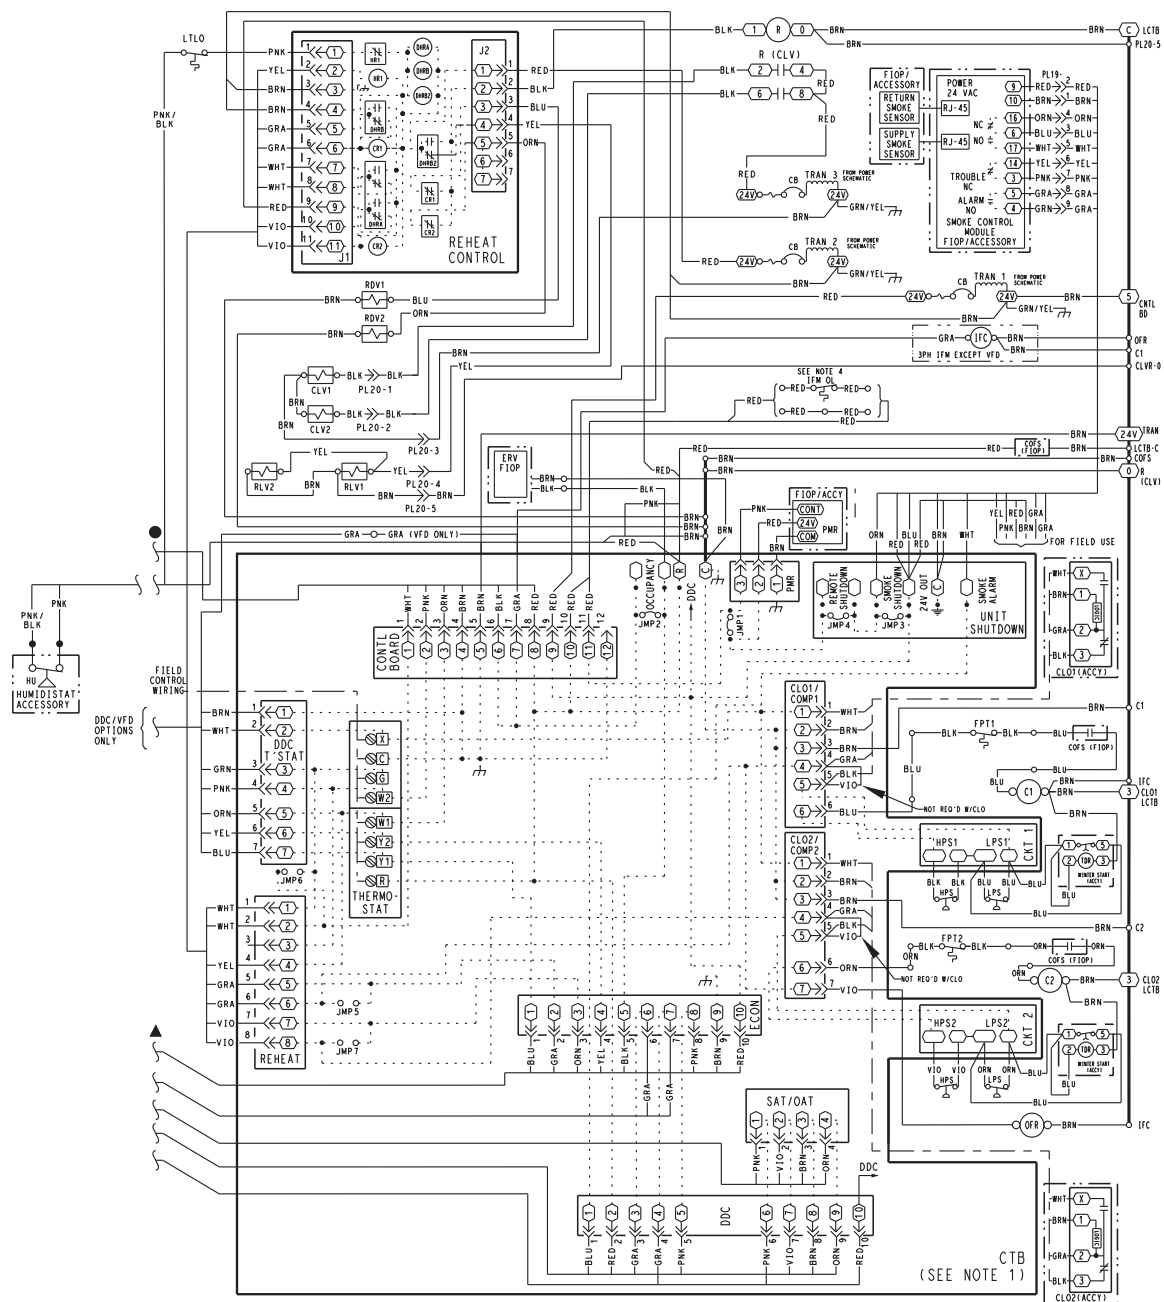

Fig. 35 — Typical Hot Gas Re-Heat Dehumidification System Humidistat Wiring
3. Use wire nuts to connect humidistat cable to the leads in the low-voltage wiring (as shown in Fig. 35), connecting PNK to PNK and PNK/BLK to PNK/BLK.